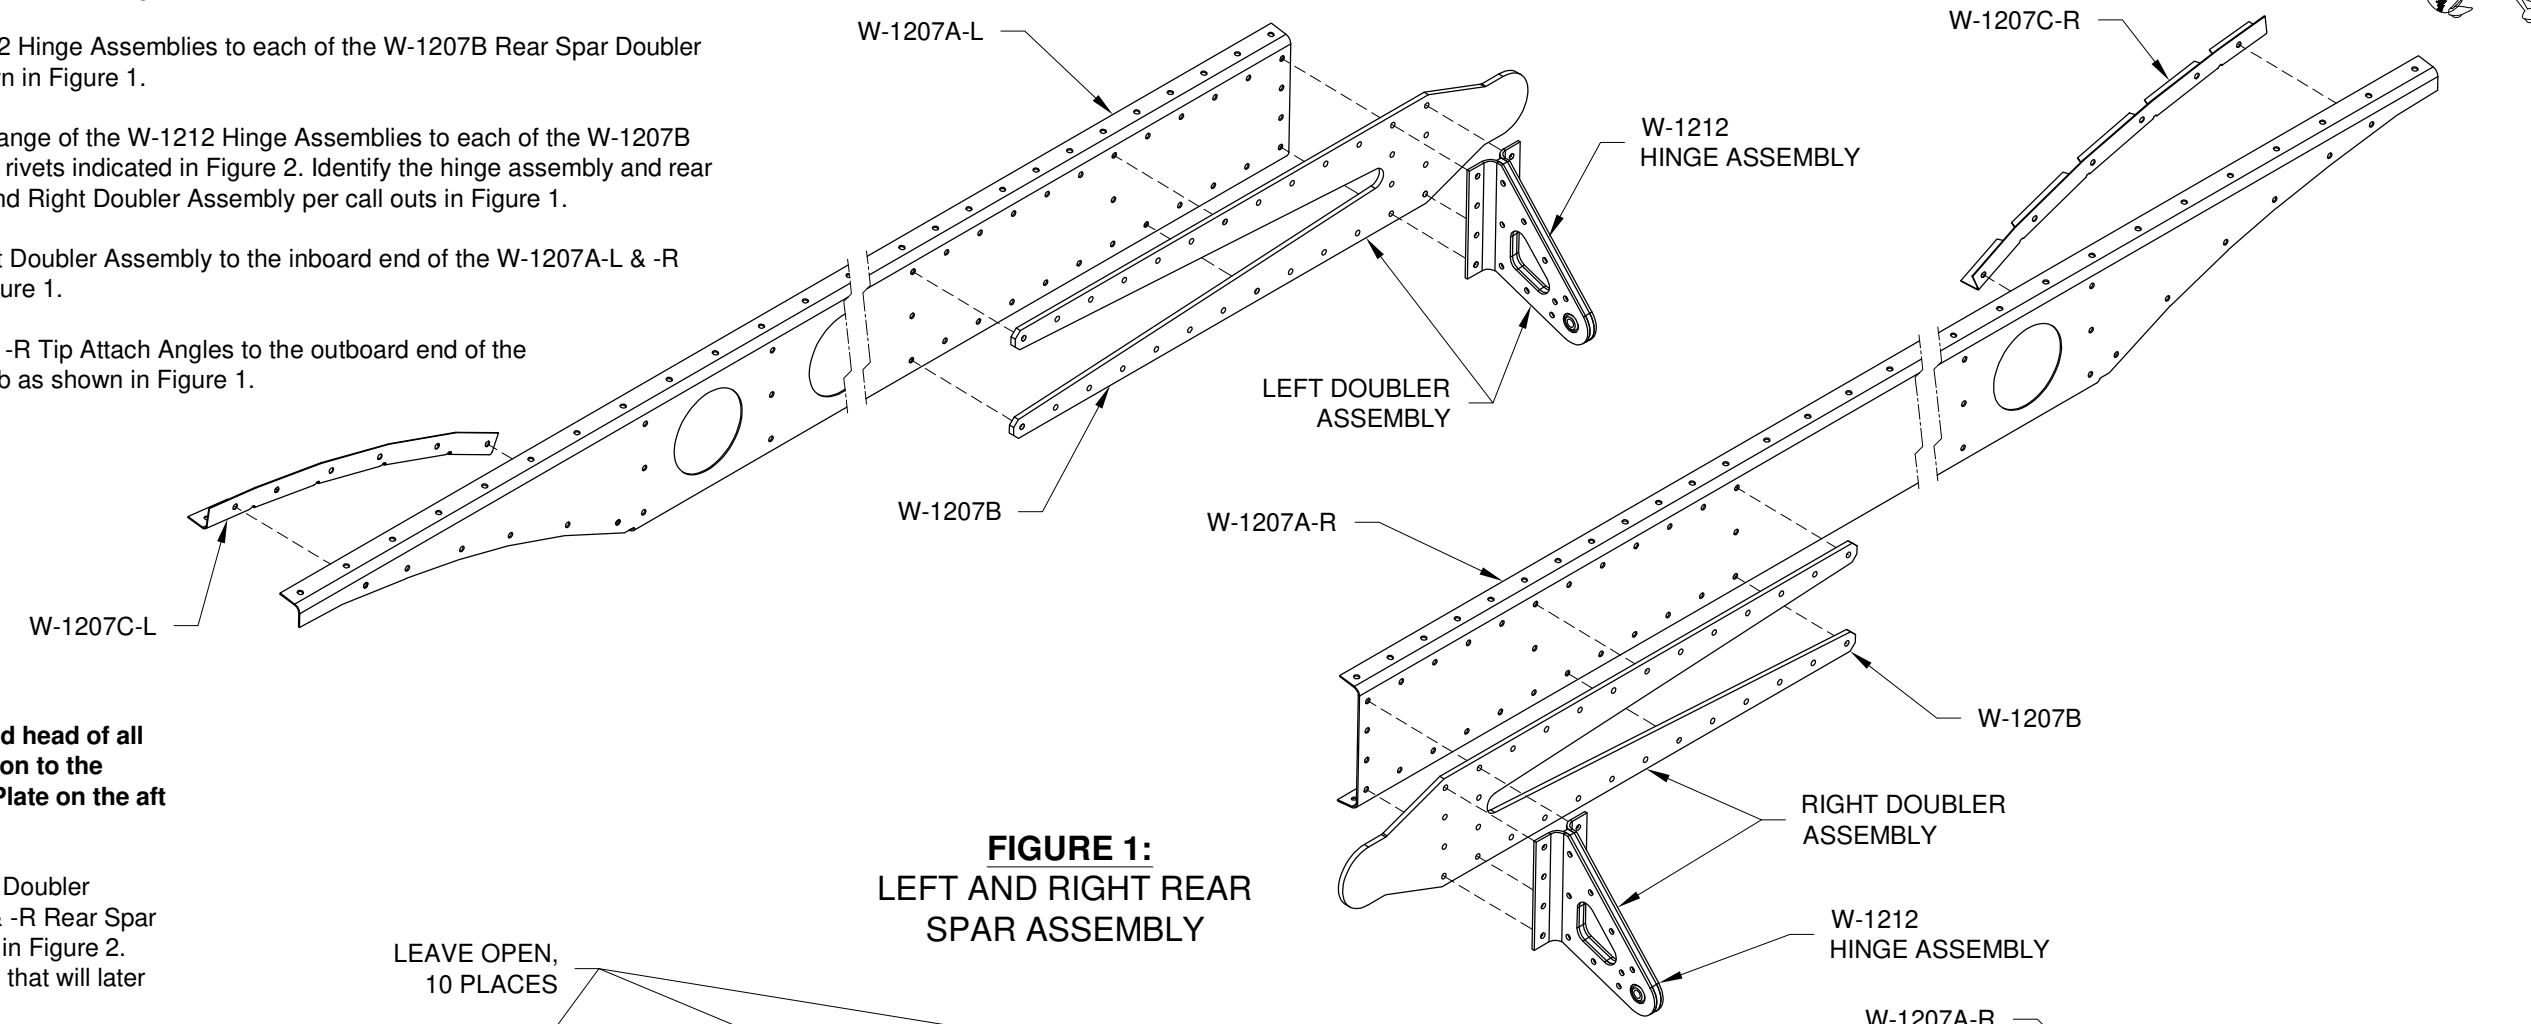

FIGURE 1:
Step 2: Cleco one of the W-1212 Hinge Assemblies to each of the W-1207B Rear Spar Doubler Plates. Orient the parts as shown in Figure 1.
Step 3: Rivet only the inboard flange of the W-1212 Hinge Assemblies to each of the W-1207B Rear Spar Doubler Plates using rivets indicated in Figure 2. Identify the hinge assembly and rear spar doubler plate as the Left and Right Doubler Assembly per call outs in Figure 1.
Step 4: Cleco the Left and Right Doubler Assembly to the inboard end of the W-1207A-L & -R Rear Spar Web as shown in Figure 1.
Step 5: Cleco the W-1207C-L & -R Tip Attach Angles to the outboard end of the W-1207A-L & -R Rear Spar Web as shown in Figure 1.